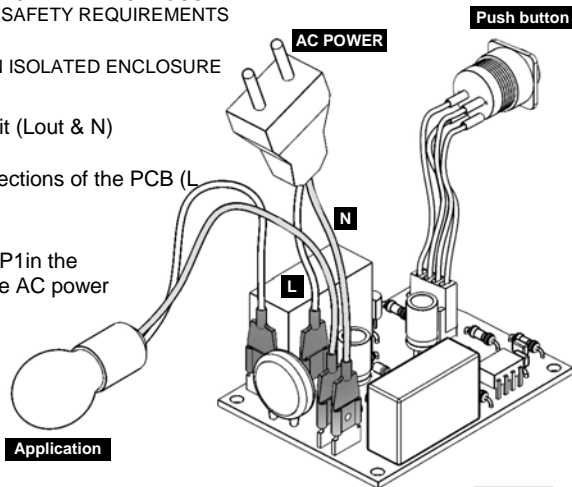

Fig. 4.0
- Connect the power supply to the power connections of the PCB (L & N), see fig. 4.0.